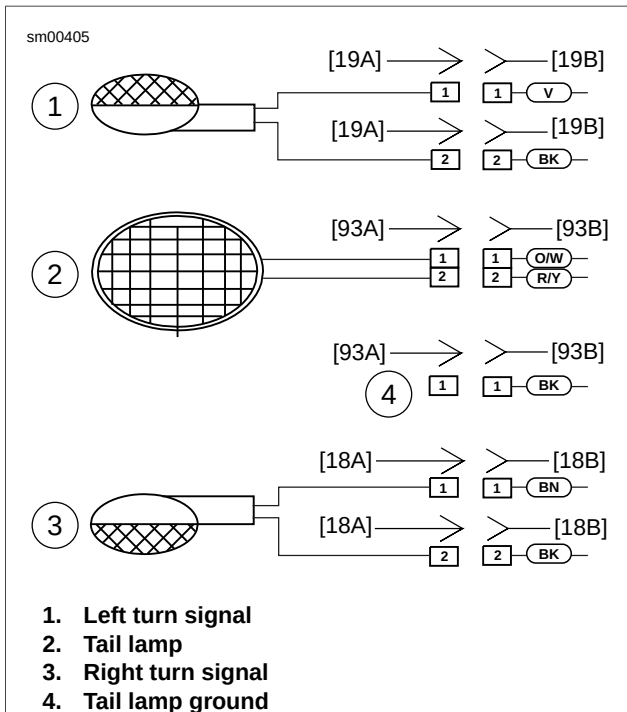

Figure 7-49. Rear Turn Signal Connections: Firebolt/Lightning
3. See Figure 7-49. Disconnect bullet connectors on turn signal wires.
1. Insert bullet connectors through license plate bracket (4) and tail section.
4. Attach bullet connectors on turn signal wires as shown in Figure 7-49.
2. See Figure 7-49. Disconnect bullet connectors [18] and [19] on turn signal wires.
1. See Figure 7-49. Insert bullet connectors through center tail section.
- Attach bullet connectors on turn signal wires as shown in Figure 7-49.